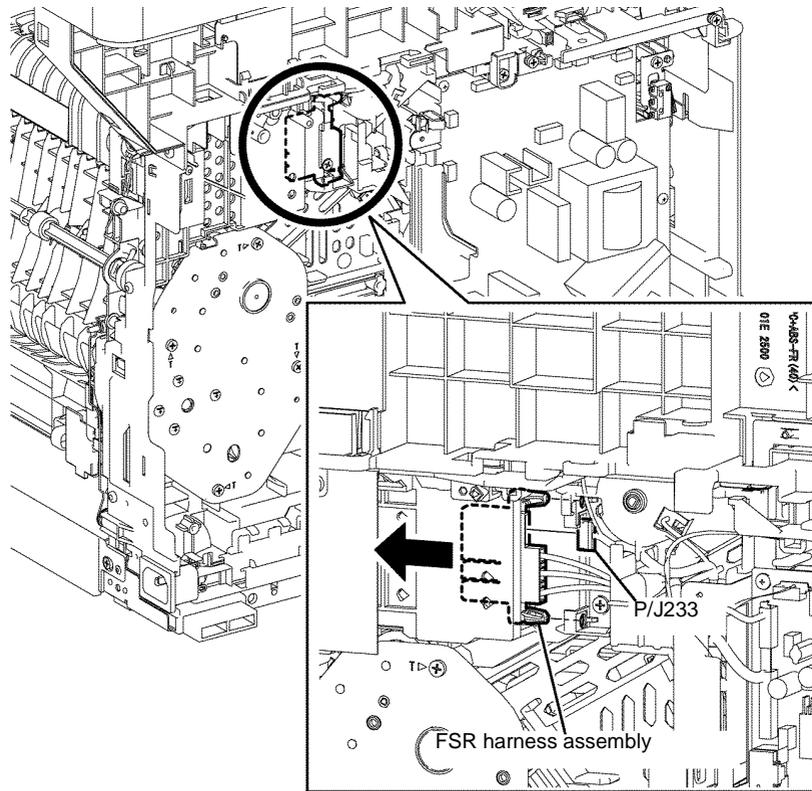

Figure 2 FSR harness assembly removal
12. Release the hook that fixes the FSR harness assembly from above, then move the FSR harness assembly in the arrowed direction, **Figure 2**.
13. Disengage P/J233 from the FSR harness assembly, **Figure 2**.